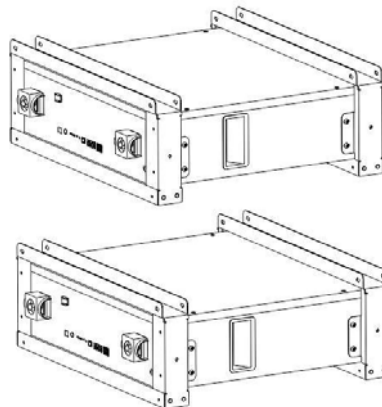

Figure 3-5
3. Install another module as the same method,don't tighten the screw first, put it on top of the first battery,as shown in Figure3-5.